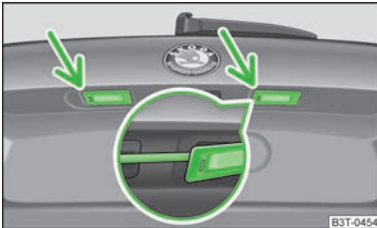

Fig. 193
- Insert a flat screwdriver into the opening in the area of the arrow » Fig. 193 and carefully press towards the centre of the lamp, by doing so the lamp jumps out slightly.